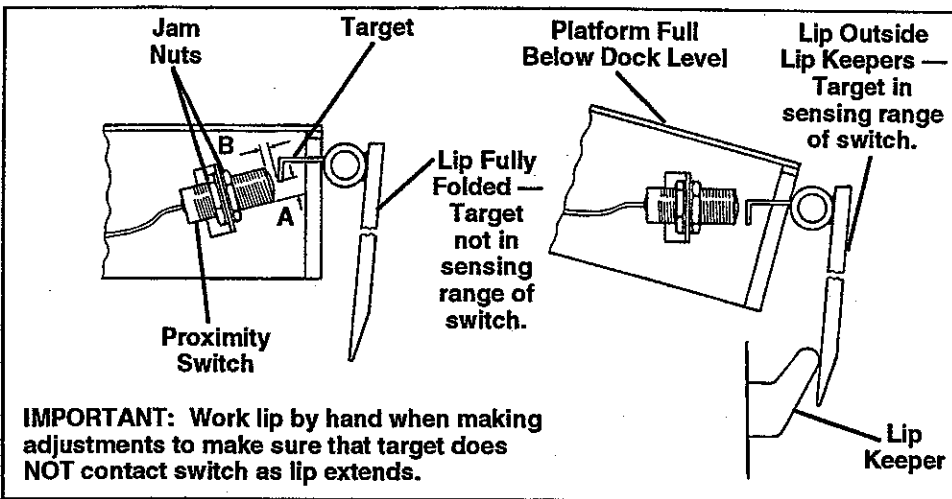

Fig. 38. Proximity Switch Adjustment
2. Set the OPERATION switch to NORMAL and the AUTO RETURN switch to ON. Wait 10 seconds. The dock leveler should **NOT** raise. If the leveler did not raise, proceed with step 3. If the leveler did raise, increase dimension "A" or "B", Figure 38, so that the target is not in the sensing range of the switch. Typical factory settings for dimensions "A" and "B" are approximately 3/4" and 3/16" respectively. Make adjustments at switch (dimension B) and/or target (dimension A) until leveler does not raise when in the cross traffic position.
5. Set the AUTO RETURN switch to ON. After approximately 6–8 seconds, the dock leveler should automatically return to the cross traffic position. If the leveler does auto return, proceed with step 6. If the leveler does not auto return, move the switch closer to the target or bend the target so that the target is in the sensing range of the switch as shown in Figure 38. Make adjustments at switch and/or target until leveler automatically returns to dock level.